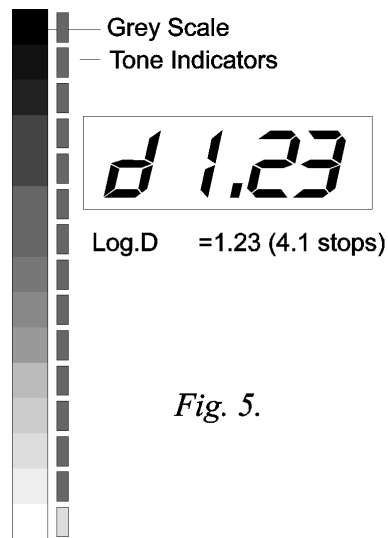
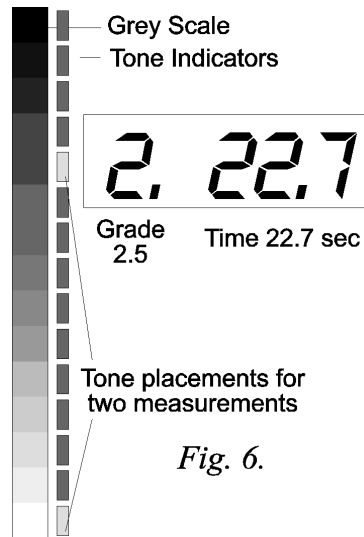

Fig. 5.
Fig. 6.
Position the remote sensor in a highlight (dense negative) part of the image and press and release the Measure button. After a longer delay (allowing the light sensor to react to the lower light level), the measured density range in logarithmic units is shown temporarily (Fig.5) followed by the new exposure time and two print tone indications as shown in Fig.6. Again, the suggested exposure is adjusted to give near-white (a print density of D0.04) for the highlight exposure.
2. The LED representing the most recent measurement will flash briefly to assist identification. During this period, the display shows the relative density of the negative as a log.D figure (refer to Fig.5). The density measurements are always relative to the brightest measurement so for them to be useful ensure that you meter the brightest negative area (deepest print shadow) first.